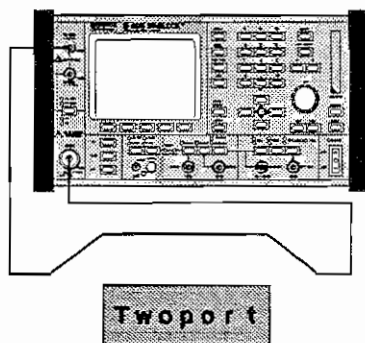

Fig. 10.10: During reference measurement, bypass is connected instead of twoport
- ⇒ Bypass twoport (Fig. 10.10).